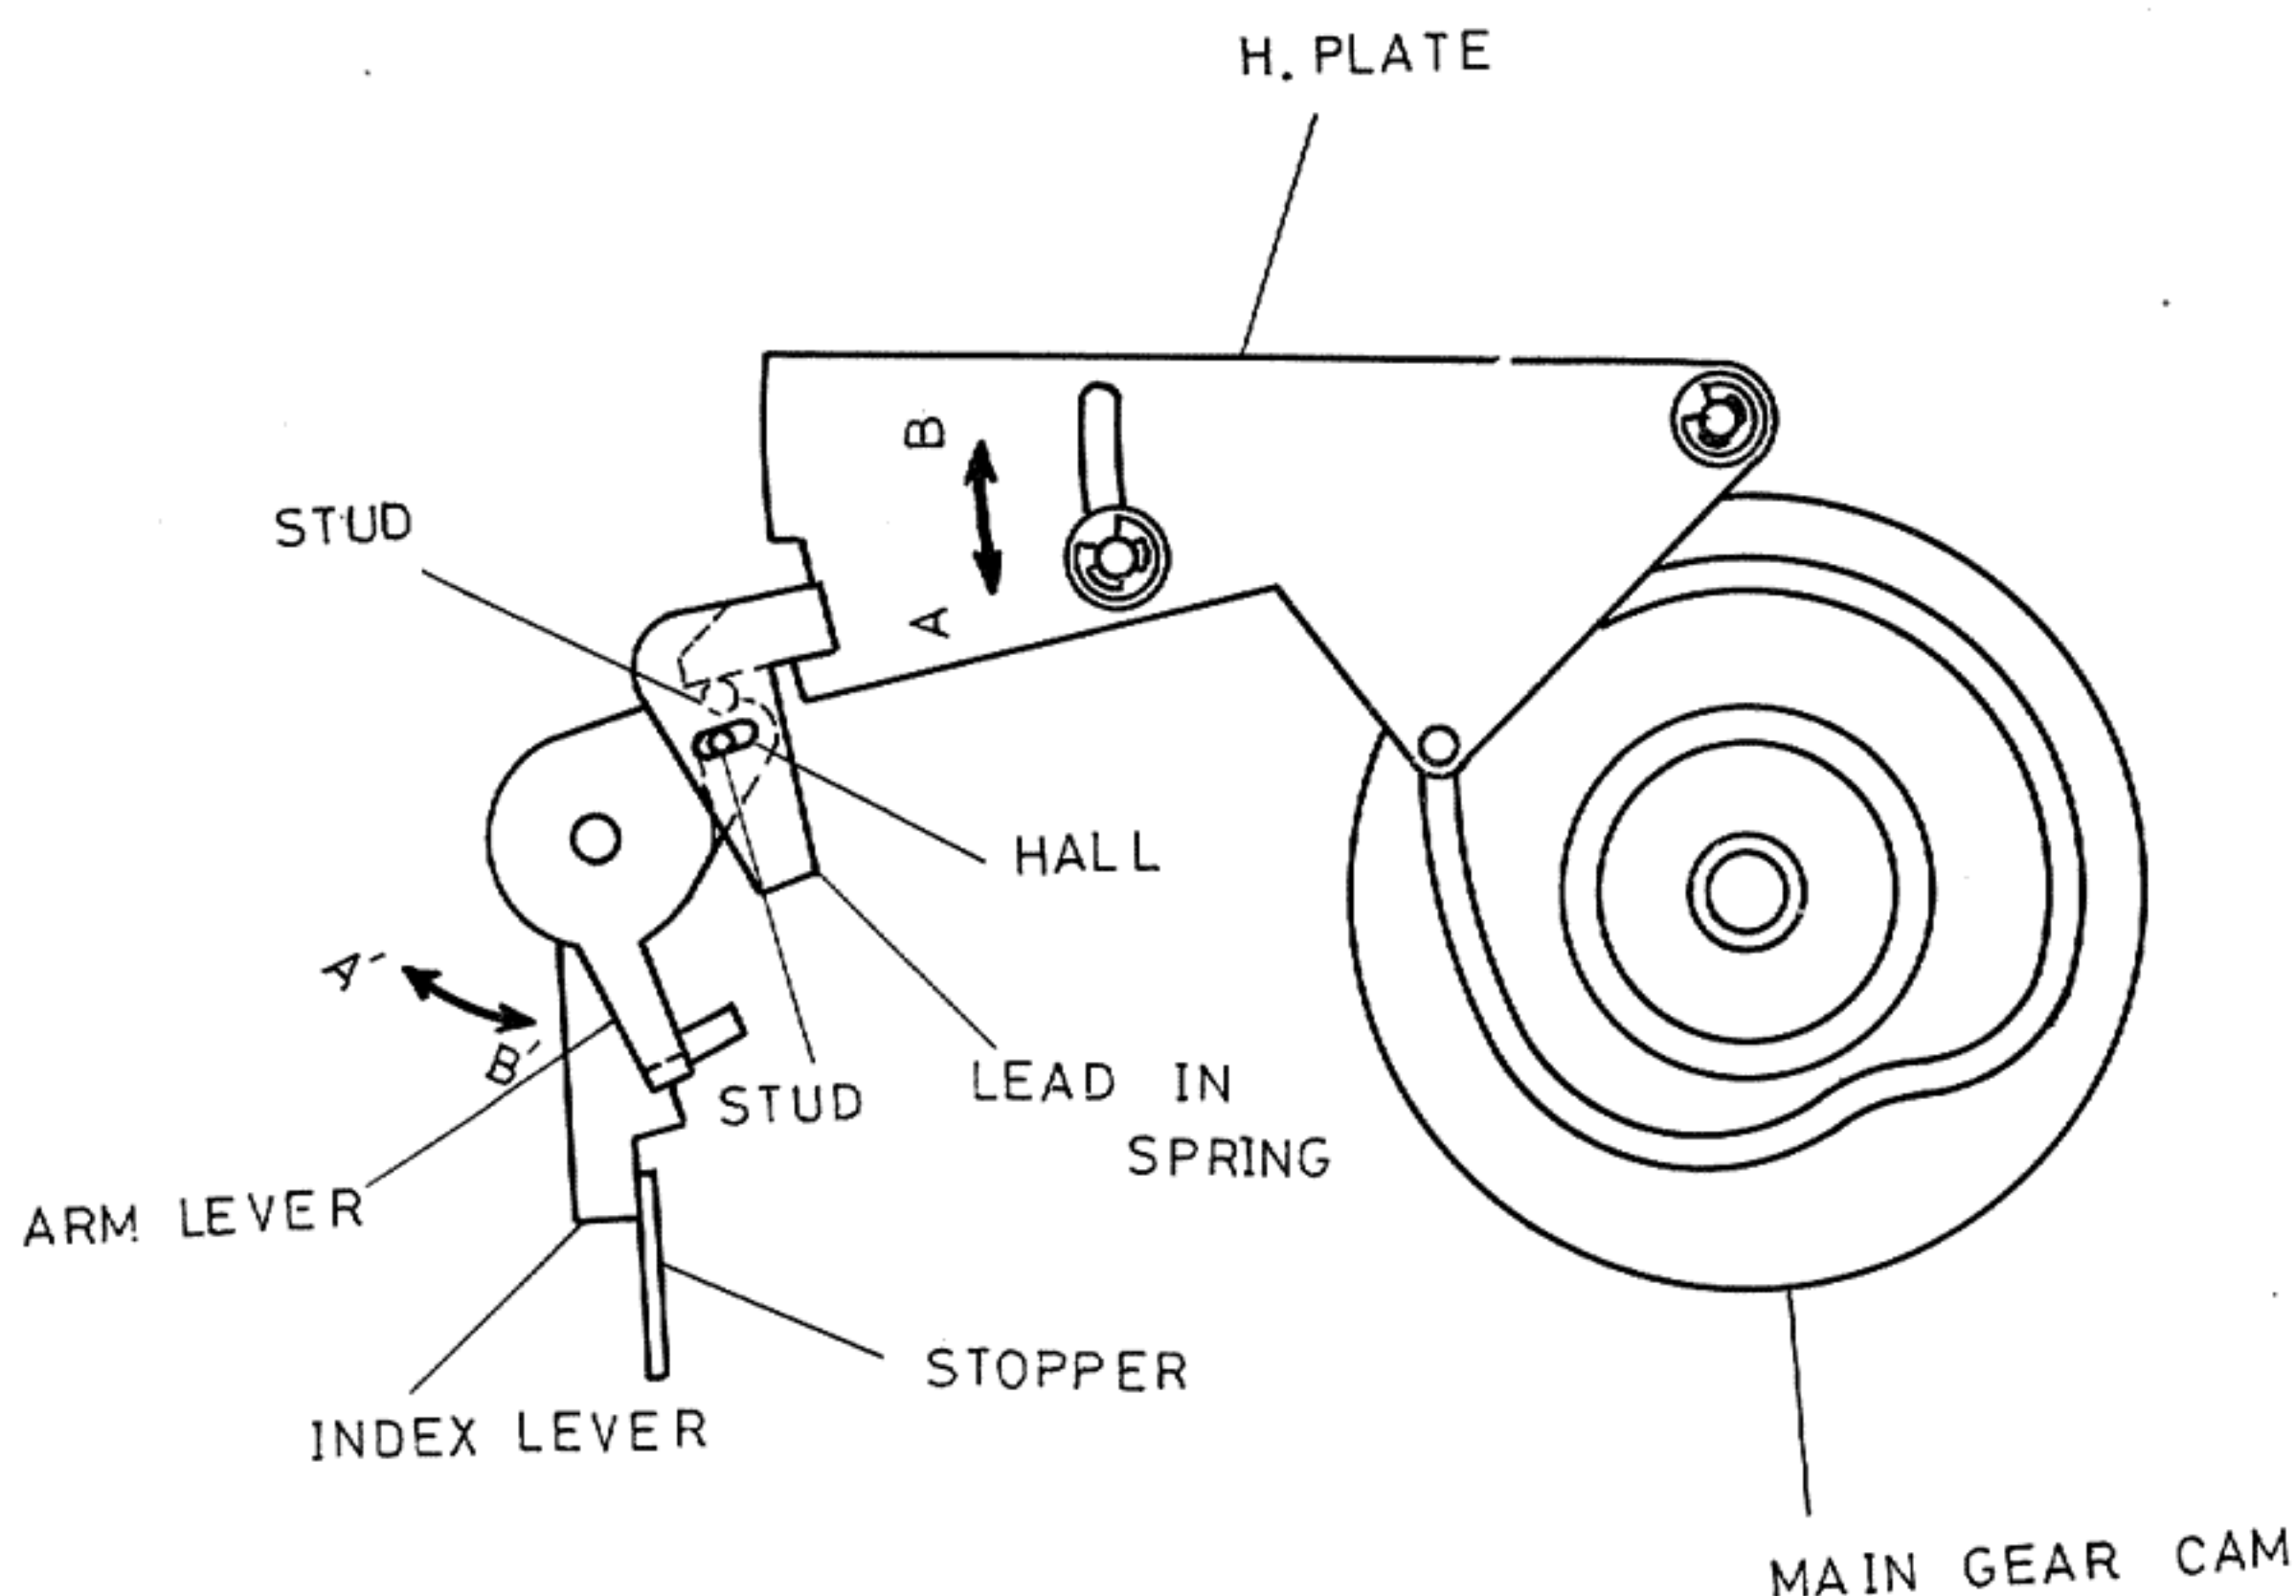

Fig. 9
- d. ② shows the very moment the Engagement touches the Projection of Turntable. When music is being played, however, the Projection pushes back the Engagement, preventing it from interlocking with Main Gear.
- e. When the Pick-Up reaches the run-out groove, the pitch becomes rough and interlocks the Projection an Engagement as shown in (3), starting the Change Cycle effect.
- f. When Change Cycle starts, the H. Plate moves toward A direction (Fig. 9) as the Main Gear revolves. The H. Plate this pushes the Stud of Arm Lever, moving the Arm Lever and the Index Lever toward A direction, and returning the Pick-Up to rest for a Lead-Out position.
LEAD-IN (Fig. 9)